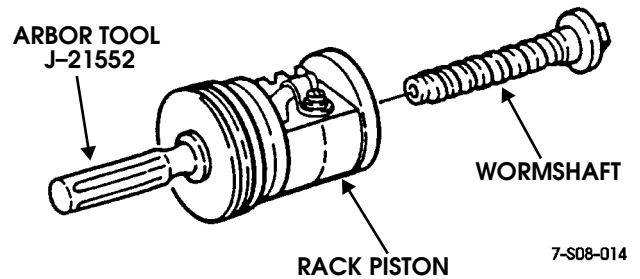

Figure 8-40: Wormshaft Removal
5. Remove wormshaft if it came out of stub shaft (Figure 8-40).
8. Remove bolts attaching recirculating ball guide halves to rack piston, remove guides, and remove bearings from rack piston (Figure 8-40). A total of 24 bearings are used; 12 chrome and 12 black.